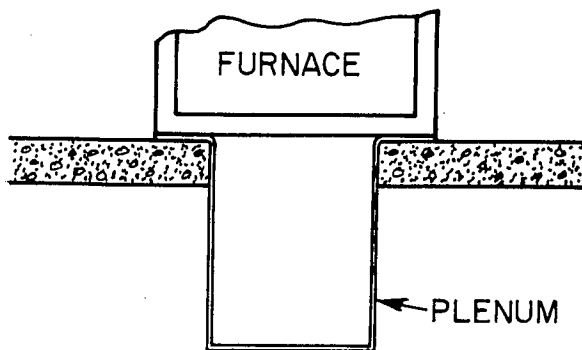

Fig. 5—Furnace on a Concrete Slab
2. Place plenum and furnace as shown in Fig. 5.